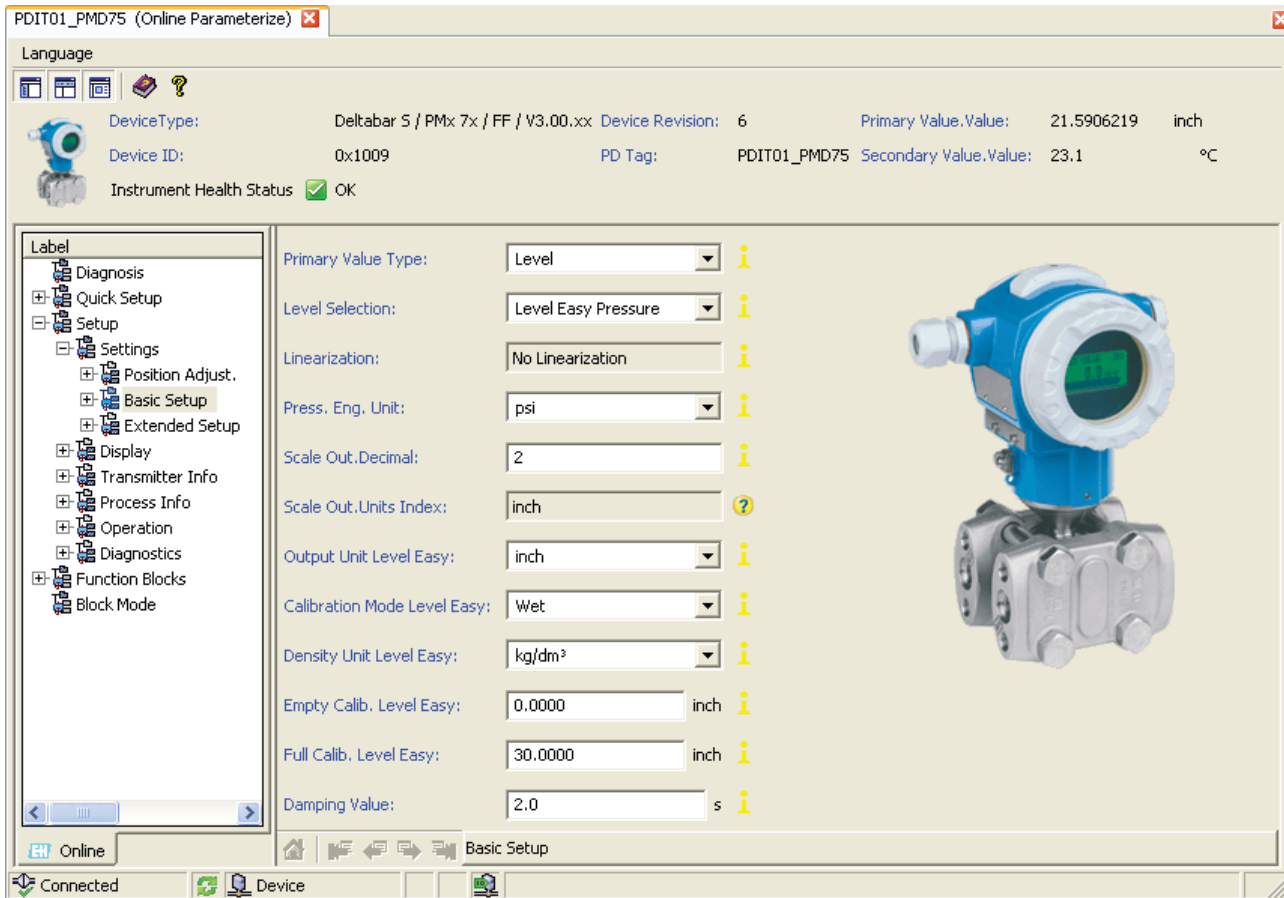

Figure 2-25. BASIC SETUP screen.
41. Go to *Setup ► Settings ► Basic Setup* as shown in Figure 2-25 and make the following choices:
- Fill the column to the maximum level (100%) required for your current experiment. Set *Full Calib. Level Easy* to that value in the unit of your choice. Figure 2-25 is an example where a height of 30 inches corresponds to 100%.